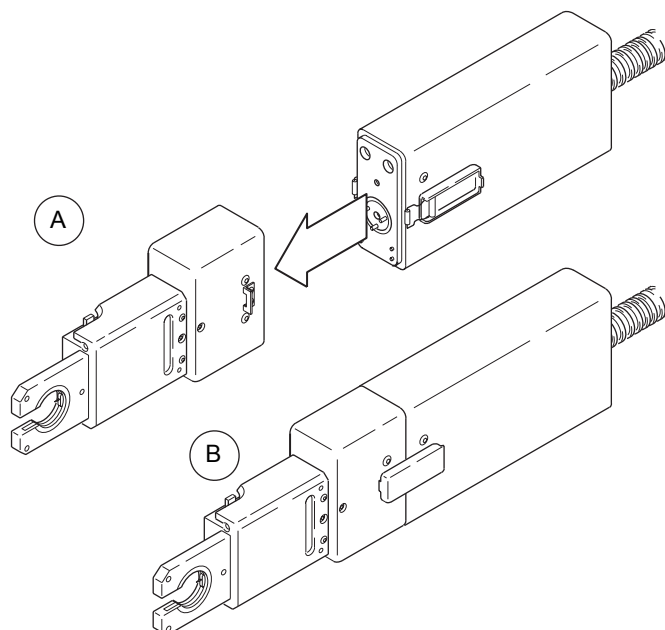

Figure 6 Connecting Weld Head and Motor Module
4. Push the micro weld head onto the motor module until it is firmly seated, then lock the assembly together with the two side latches. See Figure 6(A) and Figure 6(B).